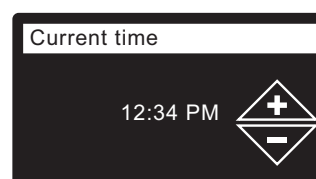

FIG. 24
11. **CURRENT TIME** Press the DOWN (▼) or UP (▲) buttons to set the current time (See Figure 24). Hold the button down to rapidly advance. Be sure that AM or PM is correct. If the system units were set to metric in Step 9, the clock will be in 24-hour format.